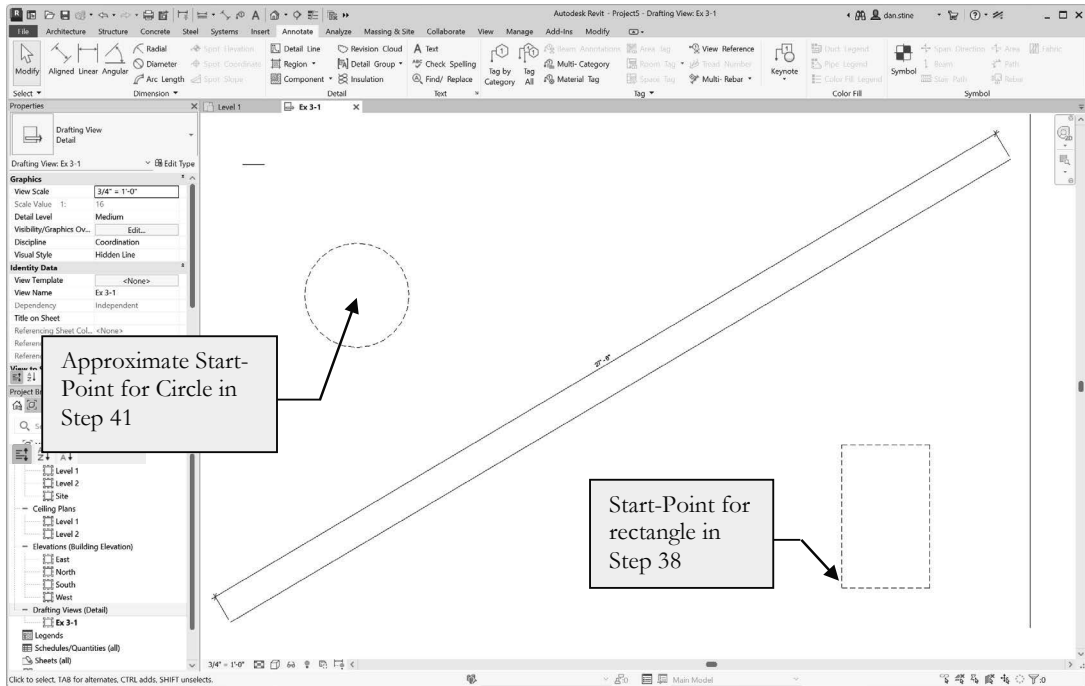

FIGURE 3-1.15 Drawing with Rectangle and Circle to be added (shown dashed for clarity)
38. Pick the “**first corner point**” somewhere near the lower center of the drawing window (Figure 3-1.15).
- 41. You are now prompted to pick the center point for the circle; pick a point approximately as shown in Figure 3-1.15.